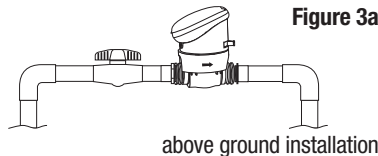

Figure 3a
2. Install a 3/4" ball or gate valve onto the PVC pipe or to the valve manifold before installing the controller (Figure 3a).